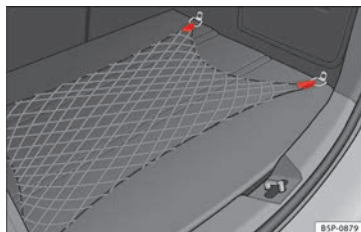

Fig. 111 Boot storage net.
- Use the fastening rings located on the side of the boot to attach the retaining net » **Fig. 111**.